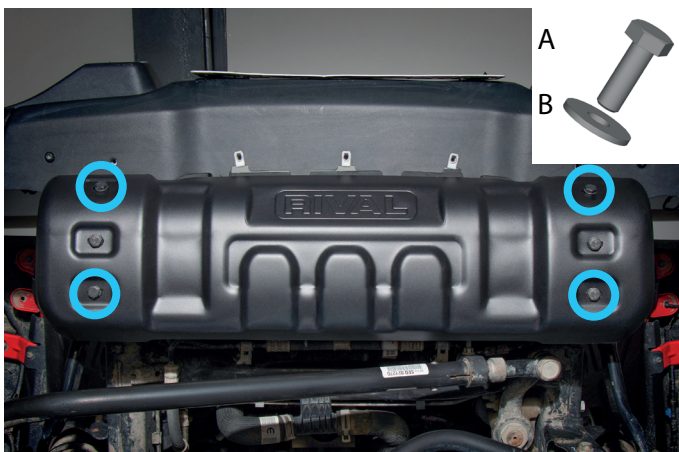

Fig. 6
8. Fix steering skid plate (item 1) using bolts M10x30 (item A) and washers 10 (item B), as shown in fig.6.